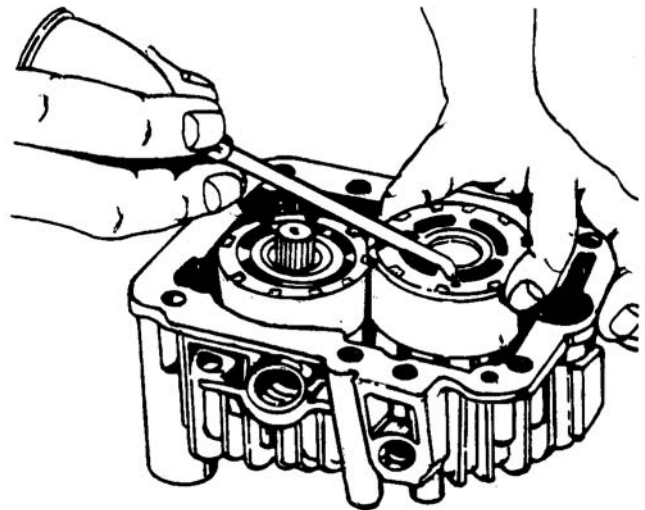

Figure 6-60. Lubricating Cylinder Block
- c. Lubricate exposed face of cylinder block with clean hydraulic oil. See Figure 6-60. Check locating pins (2 places) to place in the housing.